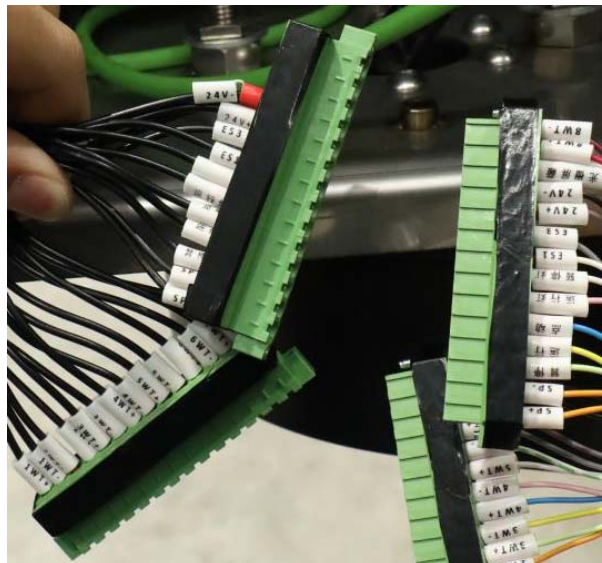
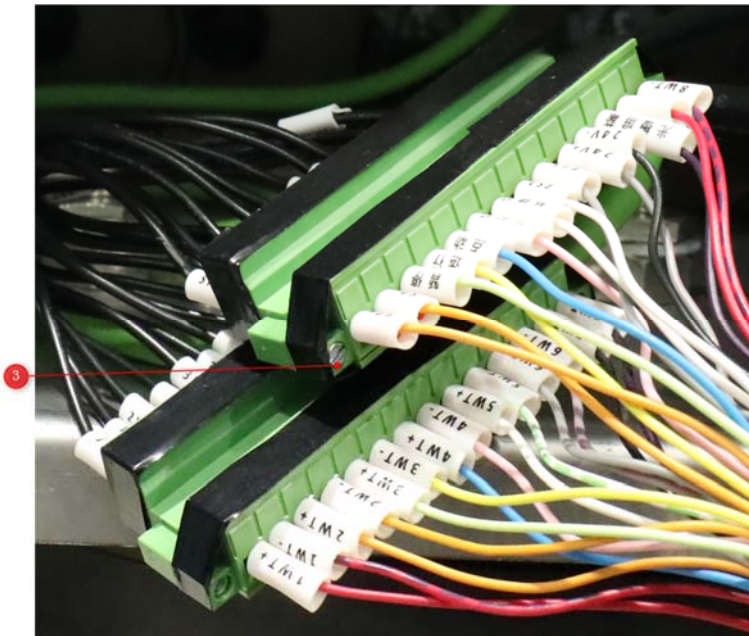

Figure 5-19 Terminals
Figure 5-20 Connecting terminals
The method of connecting power cable of operation console is shown in Figure 5-18, Figure 5-19, and Figure 5-20.
(1) Screw (2) Cover
Step 1: Remove screws (1) and cover (2), the terminals shown in Figure 5-19;
(3) Screw
Step 2: Connect the green terminals according to wire number (Figure 5-20 is not the real wire number, please refer to the electrical schematic for details);
Step 3: Tighten screws (3);
Step 4: Install cover (2).